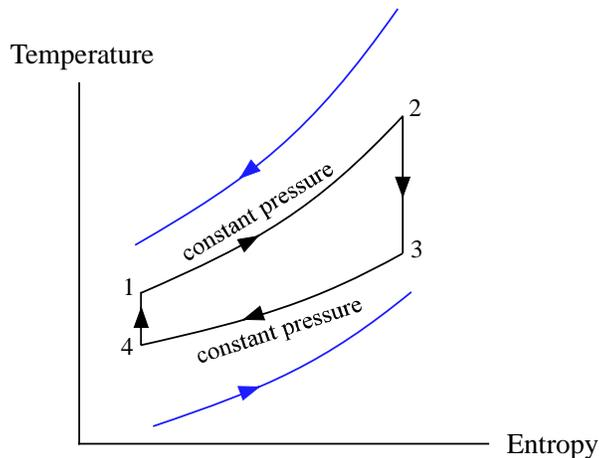

Figure 8.D-8: Temperature-entropy diagram for a heat engine operating as an ideal Brayton cycle.
8.D-8 An internally-reversible heat engine steadily operates on energy supplied from a gas stream having that has an entering temperature of $T_{H,in} = 1,000^\circ\text{C}$ and capacitance rate of $\dot{C}_H = 5,000$ W/K as shown in Figure 8.D-8. The engine rejects energy to a cooling stream which enters the heat exchanger at $T_{C,in} = 30^\circ\text{C}$ with a capacitance rate of $\dot{C}_C = 10,000$ W/K. The high temperature heat exchanger has an effectiveness of $\varepsilon_H = 0.70$ and the low temperature heat exchanger effectiveness is $\varepsilon_C = 0.80$. The heat transfer processes to the ideal gas working fluid in the engine occur at constant pressure, just as in the ideal Brayton cycle, as indicated on the temperature-entropy diagram. The product of the mass flow rate and specific heat of the working fluid is $\dot{C}_{wf} = 20,000$ W/K.